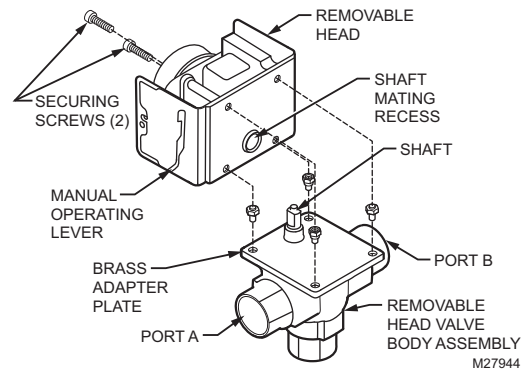

Fig. 10. Installing Replacement Head.
1. Place manual operating lever on the replacement head in the MAN. OPEN position and fit the head onto the valve body, ensuring that the shaft seats correctly. See Fig. 10.